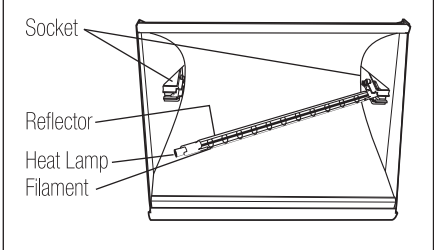

Fig.11
- 1 The heat lamp is half coated with a white reflector. When you grasp the heat lamp, face the back of the reflector to the ceiling (so you can see the heat lamp's filament). Not doing this will reduce performance. (Fig 11)